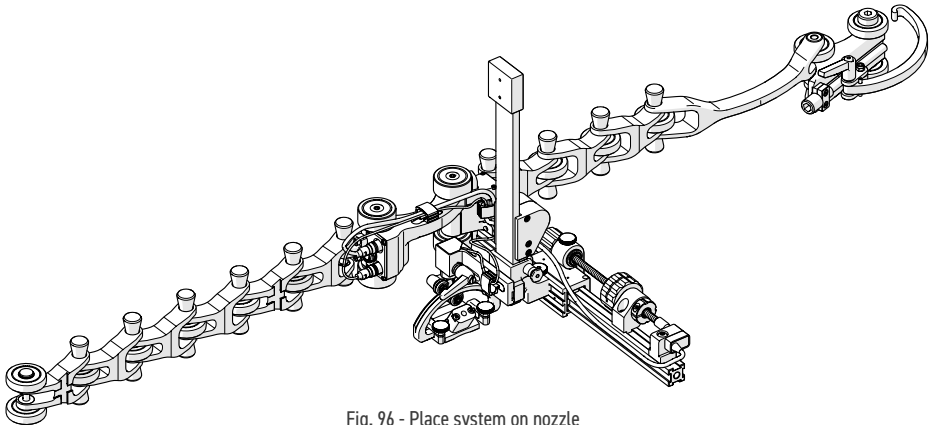

Fig. 96 - Place system on nozzle
3. On a flat surface, connect the appropriate amount of links as indicated on the **ROTIX** setup chart. Arrange the link setup so the buckle and catch link will be 180° opposite the low profile link (*Fig. 96*).